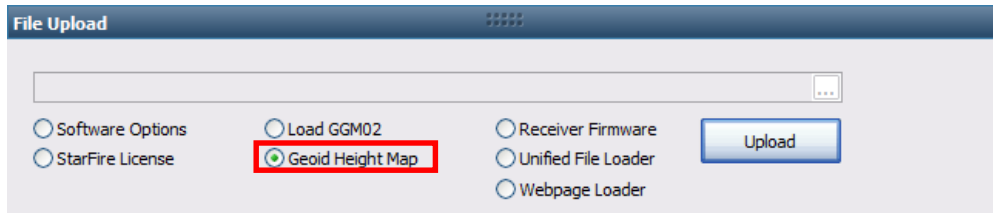

Figure 81: File Upload– Geoid Height Map
2. Select *Geoid Height Map* on the *File Upload* window (see Figure 81).